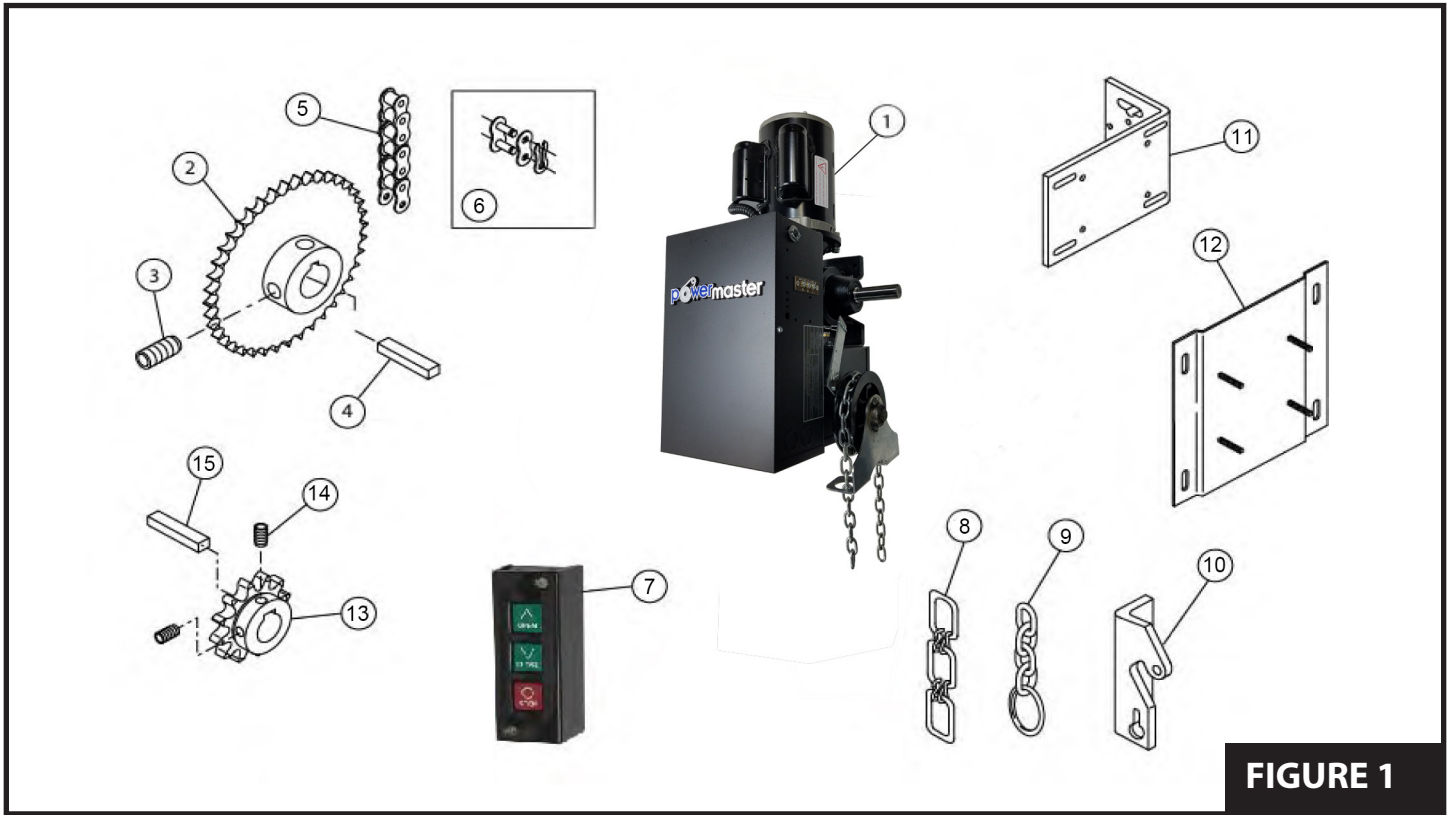

FIGURE 1
1. Figures 2 and 3 illustrates several positions suitable for mounting the operator: Right Hand or Left Hand Wall Mount or Horizontal (shelf) Mount to the torsion shaft. For sectional doors, the MG operator must be wall mounted. For rolling steel doors, the operator must be wall mounted or hood mounted by using an optional hood mounting bracket [Item 11]. A wall mounting plate [Item 12] is also available from the factory (see **Figure 1**). The mounting plate/bracket provides for chain tension adjustment as well as aiding installation.